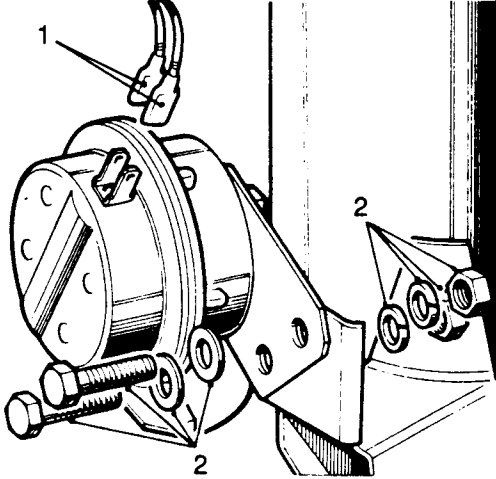

Fig O5.7
- (2) Refer to Fig O5.7. Disconnect the leads (1) from the horn.
- (3) Remove the fixings (2) and lift the horn out.